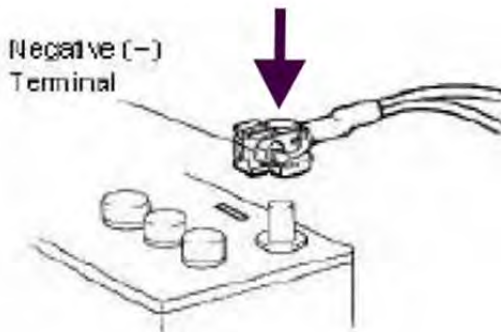

Figure 23
24. Connect the negative battery cable. Figure 23.